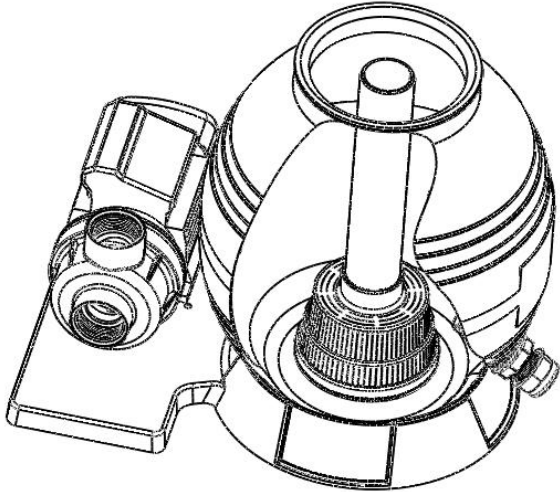

fig. 3
3. Press and turn the sand tank to mount it to sand filter support with correction direction (fig. 3).